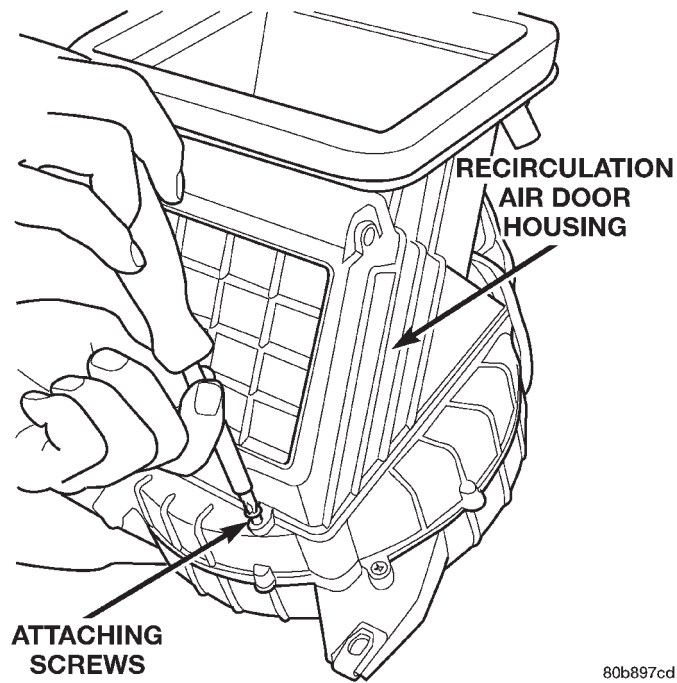

Fig. 63 Recirculation Air Door Housing
- (1) Remove the instrument panel from the vehicle. Refer to Instrument Panel Assembly in Group 8E - Instrument Panel Systems for the procedures.
- (2) Unplug the wire harness connector from the recirculation air door motor.
- (3) Remove the 2 screws securing the recirculation air door housing to the HVAC unit (Fig. 63). Tilt the front of the housing up while reaching around the back releasing 2 tangs holding the rear of the housing down.
- (4) Remove the recirculation air door housing from the HVAC unit.